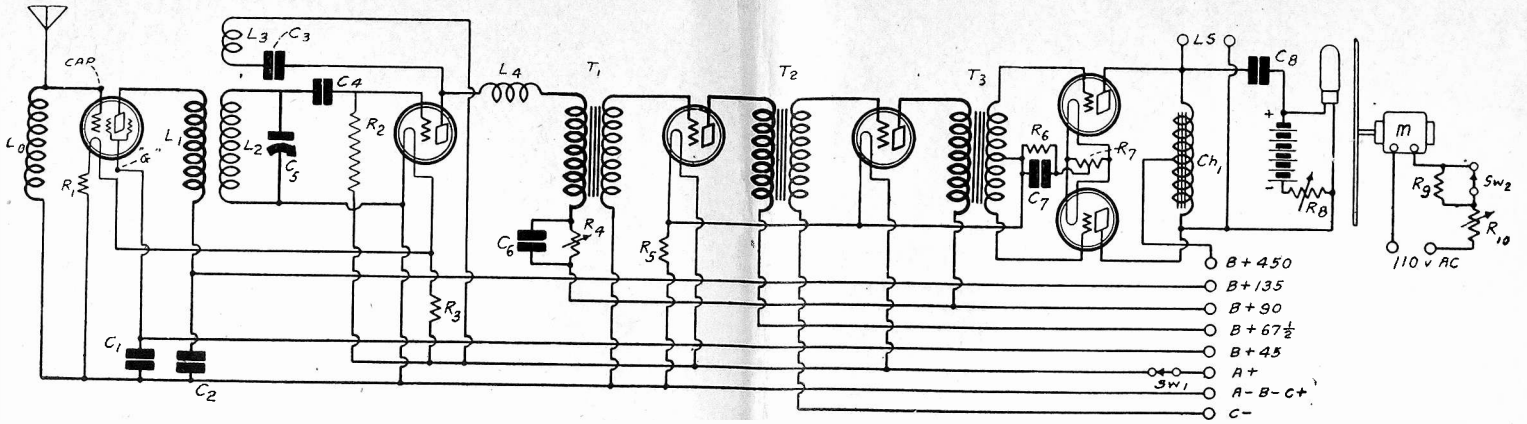

FIG. 712
(1)—Fig. 712 shows a six tube receiver which has been used successfully for receiving television images. This circuit employs a screen grid tube for RF amplification and high grade transformers in the audio amplifier. Push-pull output is used to improve the quality and increase the volume.